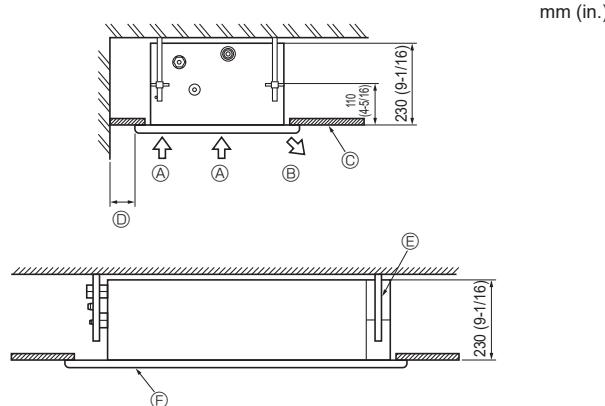

Fig. 2-2
①	Washer	4
②	Washer (with insulation)	4
③	Pipe cover	2
④	Band	6 (Long) 2 (Middle) 2 (Short)
⑤	Screw	4 (M5 × 30) 4 (Tapping screw 4 × 12)
⑥	Glass tube	1
⑦	Plate for conduit	1
⑧	Drain socket	1 (Marked with "UNIT")
⑨	Insulation	1
⑩	Conduit cover	1
2.2. Service space (Fig. 2-2)